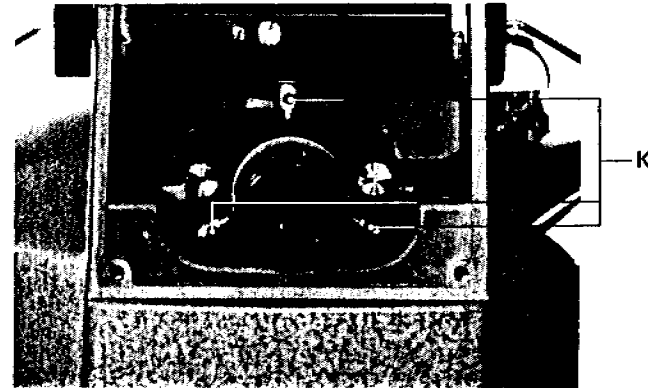

Fig. 19 K Adjustment Screws
1. Draw straight line between two points: the one point sighted by intersection of O.P. cross line and the other point of intersection of cross line drawn on white paper and adjust three adjustment screws so as that O.P. sights the center point. (See Fig. 19.)